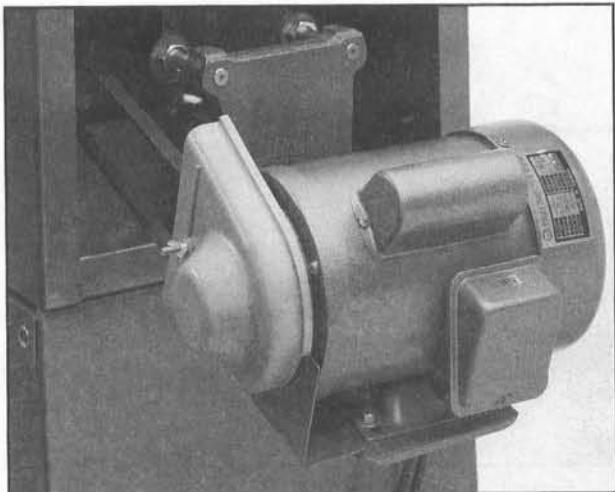

Figure 16.
8. Slip the pulley cover spacer over the pulley cover mounting bolt and fit the plastic pulley cover in place. Secure it with the wing nut provided. **Figure 16.**